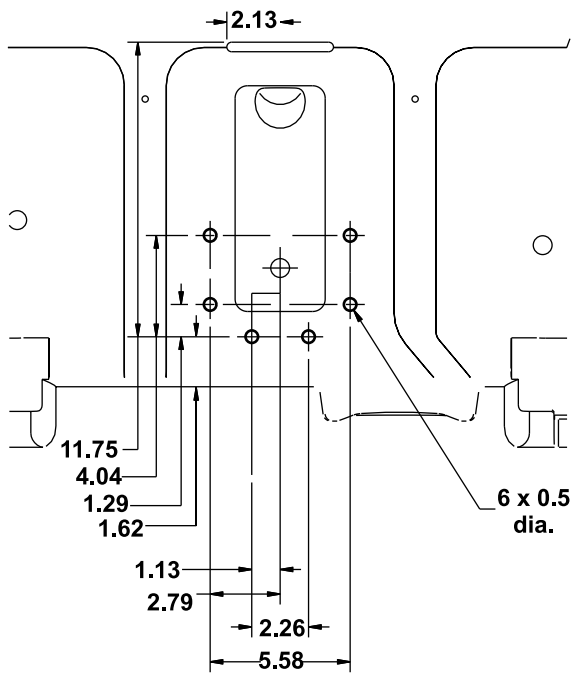

Figure 3
- D. Use the seat base template and front edge the depression to mark the 6 holes as shown in Figure 3.